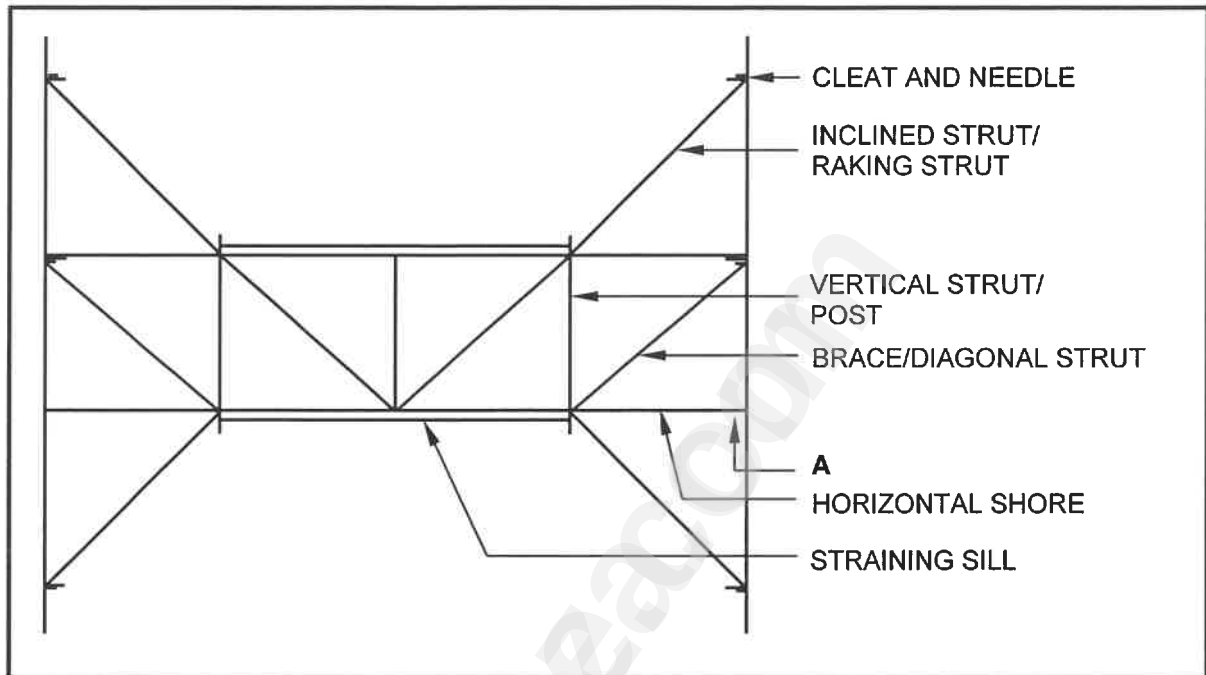

FIGURE 5.2
- (1)
- 5.2 FIGURE 5.2 below shows a line diagram of a shore. Analyse the drawing and answer the questions that follow.